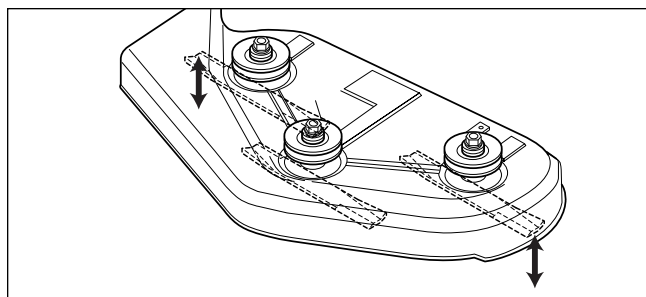
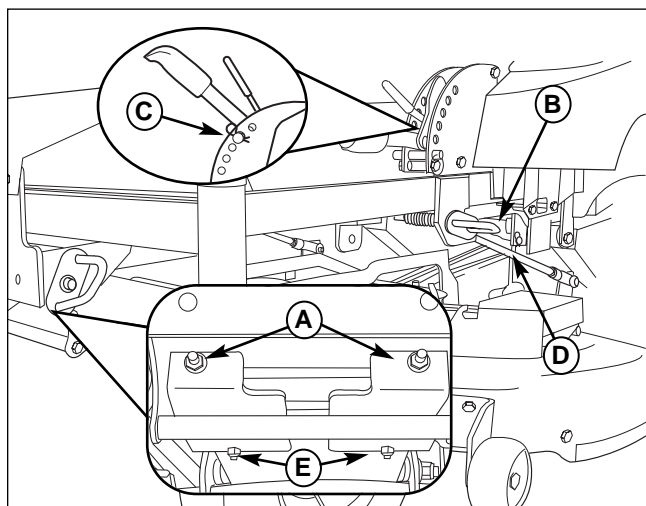

Figure 40. Orient Blades Side-to-Side
Figure 42. Mower Leveling
3. Place the mower cutting height pin in the 4th hole from the bottom (see insert, Figure 42). Arrange the outside mower blades so that they are pointing from side-to-side (Figure 40).
4. Measure the distance between the outside tips of each blade and the ground (Figures 40 & 41). If there is more than 1/8" (3mm) difference between the measurements on each side, proceed to step 5. If the difference is 1/8" (3mm) or less, proceed to step 6.
5. Use the rear leveling links (B, Figure 42) to adjust the side-to-side leveling of the deck. Repeat step 4 if necessary.
8. Check the length of the hanging rods. The rear (D, Figure 42) should be 15" (38,1cm) and is not adjusted. To adjust the pitch of the mower deck, adjust the front leveling nuts only.
9. Loosen the front lock nuts (E, Figure 42).
10. Turn the leveling nuts (A, Figure 42) counter-clockwise to lower the front of mower deck. Turn the nuts clockwise to raise the front of the mower. Make adjustments in small increments, trying to keep tension on both leveling nuts.
11. Tighten the front lock nuts (E).